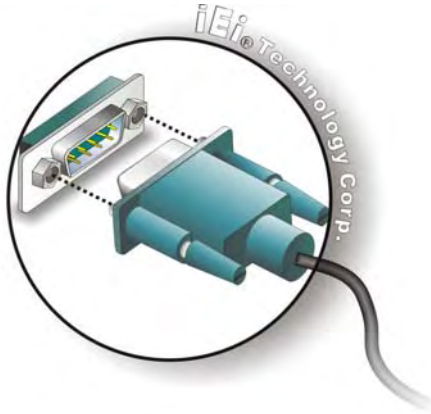

Figure 3-12: Serial Device Connector
Step 2: Insert the serial connector. Insert the DB-9 connector of a serial device into the DB-9 connector on the bottom panel. See Figure 3-12.